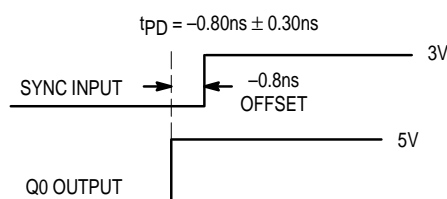

Figure 2. Depiction of the Fixed SYNC to Q0 Offset ( $t_{PD}$ ) Which Is Present When a  $1\text{M}\Omega$  Resistor Is Tied to  $V_{CC}$  or Ground
- A  $1\text{M}\Omega$  resistor tied to either Analog  $V_{CC}$  or Analog GND, as shown in Figure 2, is required to ensure no jitter is present on the MC88920 outputs. This technique causes a phase offset between the SYNC input and the Q0 output, measured at the pins. The  $t_{PD}$  spec describes how this offset varies with process, temperature, and voltage. The specs were arrived at by measuring the phase relationship for the 14 lots described in note 1 while the part was in phase-locked operation. The actual measurements were made with a 10MHz SYNC input (1.0ns edge rate from 0.8V to 2.0V). The phase measurements were made at 1.5V. See Figure 2 for a graphical description.